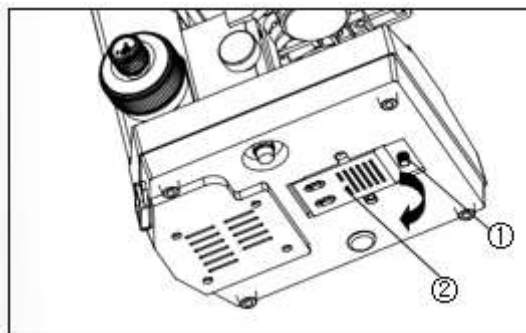

Figure-13
7.3.7 Installing and replacing the lamp (Figure-13,14)
- Loose the bolt ① and open the window ② on the bottom of the microscope base with “—” type screwdriver.
- Pull out the old bulb ③, hold the new bulb after you wrap it with gauze or other protection materials, and insert its pin as deeply as possible into the jack in the lamp holder.
- Close the window and tighten the bolt ①.